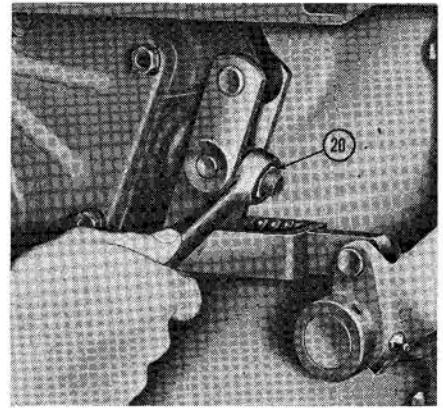

Fig. 165 — Adjusting disc brake free pedal. Refer also to Fig. 164 and to text.
and while holding screw in this position, tighten locknut. Then, remove the brake return spring (32—Fig. 166). Refer to Fig. 165; tighten the pull rod nut (20) until brake pedal contacts upper stop, then back nut off 1½ turns. This should give a brake free pedal of 1½ inches measured at pedal pad. Reconnect brake pedal return spring and adjust opposite brake in similar manner.